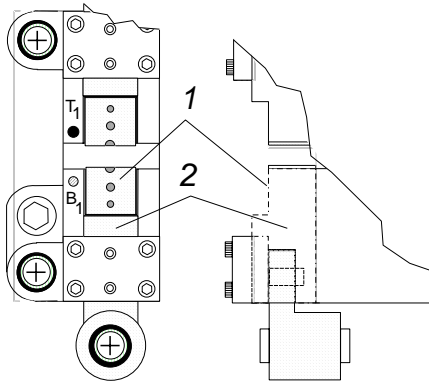

Figure 8 Die Mounting Surface & Die Block Slide
- b. Carefully place each die on proper die mounting surface (Figure 8, Item 1) and bolt in place with a 5/8" (15.75 mm) screw. Then manually turn machine's hand crank (page 6) until die block slides (Item 2) are in their fully closed position.